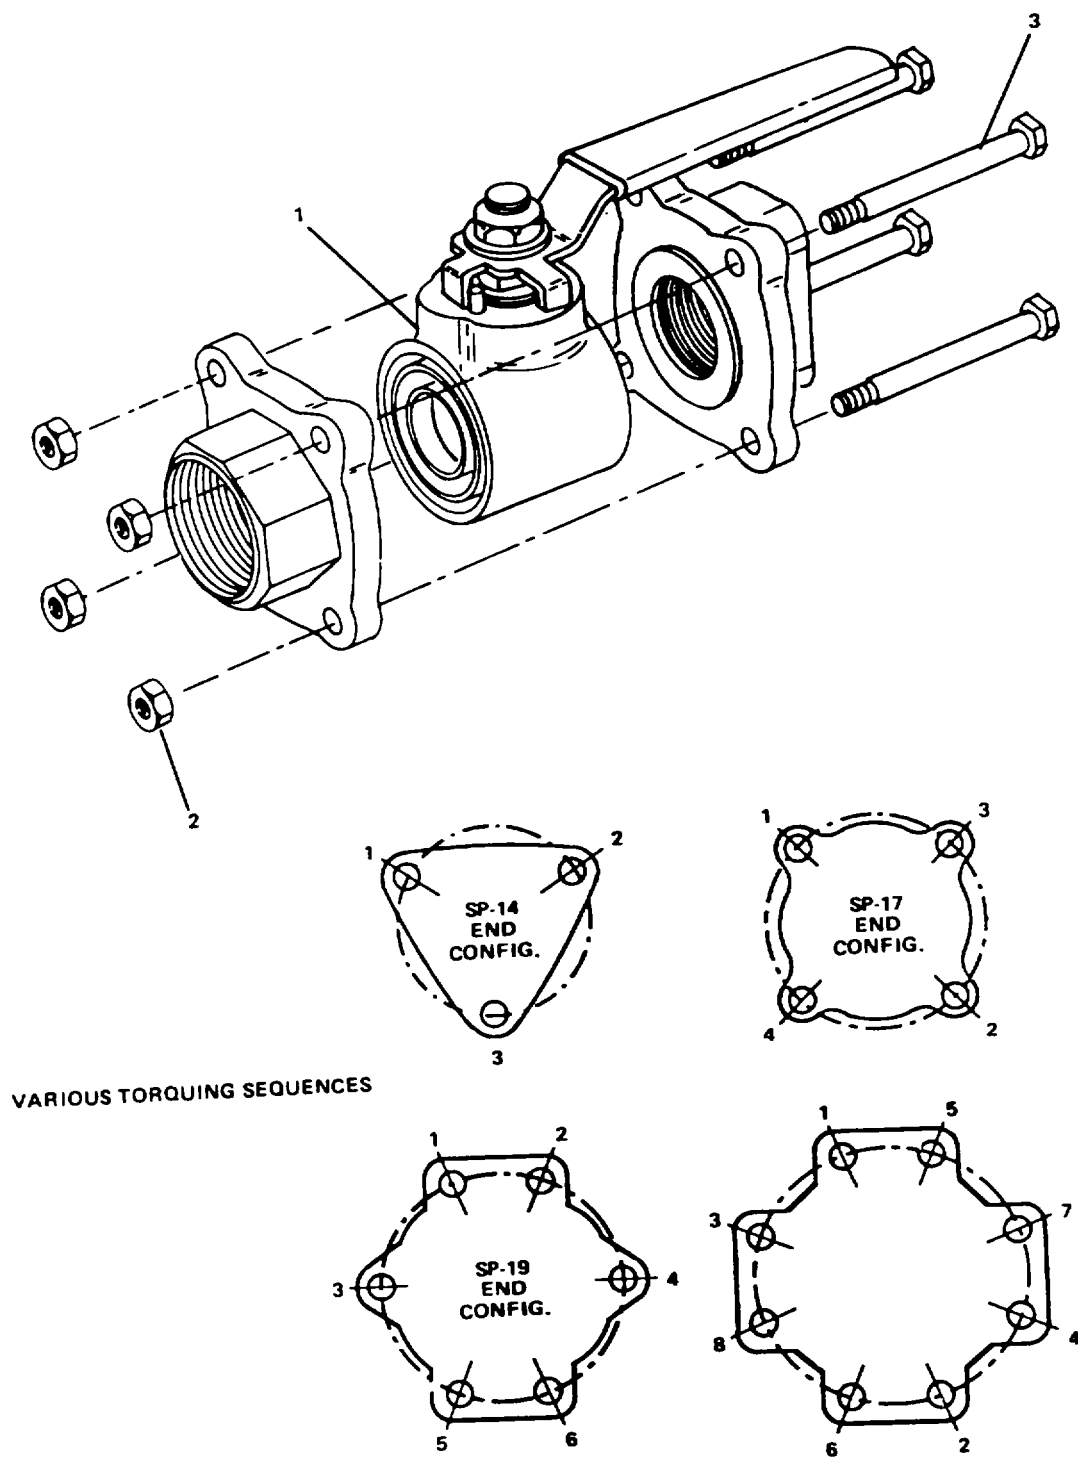

Figure 2-85. Replace Two-Way Ball Valve (Typical).
- a. Place utility pail under valve (1, Figure 2-85).
- b. Remove nuts (2) from bolts (3).
- c. Remove valve body (1).
Refer to Figure 2-85 for torquing sequences.